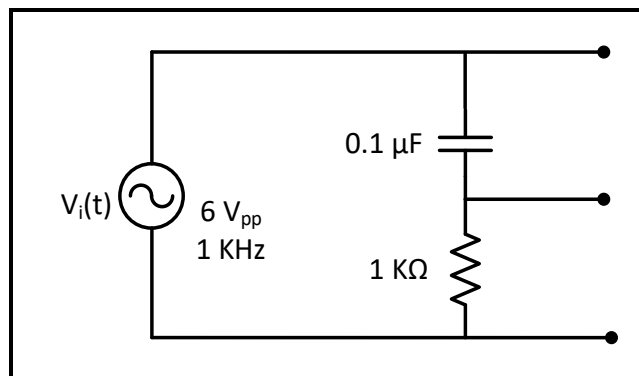

Figure 7.14
2. Connect the circuit of Figure 7.14, set V_{in} to sinusoidal voltage at $6 V_{pp}$, $f = 1 \text{ kHz}$.